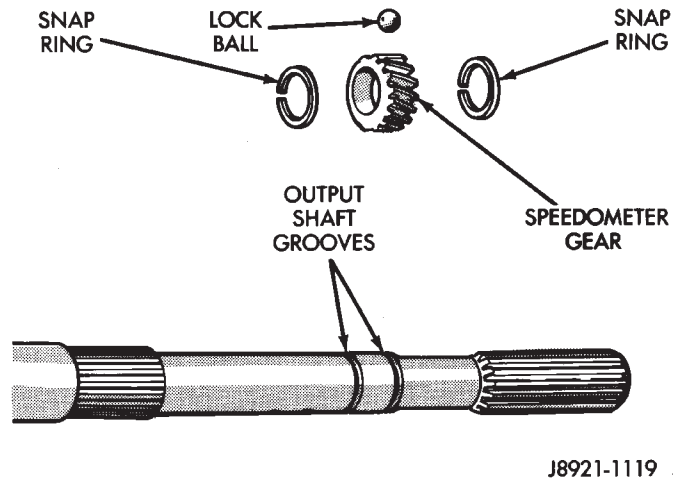
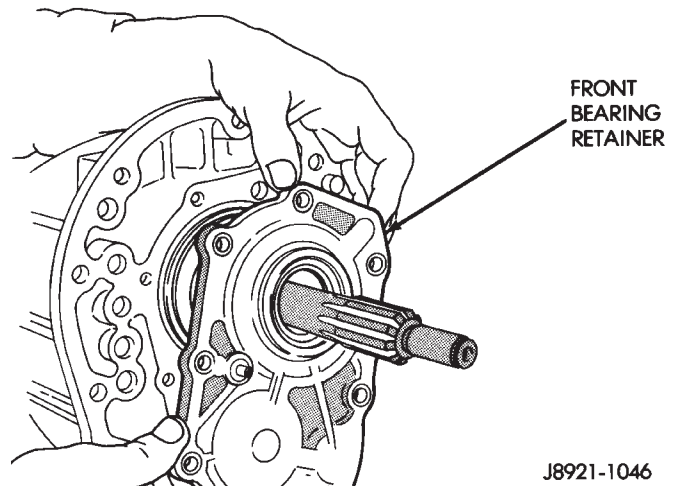

Fig. 30 Speedometer Drive Gear Assembly
Fig. 31 Remove Front Bearing Retainer
- (18) On 4x2 transmissions;
- (c) Remove speedometer drive gear locating snap-ring (Fig. 30).
- (19) Remove the bolts holding the front bearing retainer to the transmission case.
- (20) Remove the bearing retainer from transmission case (Fig. 31).